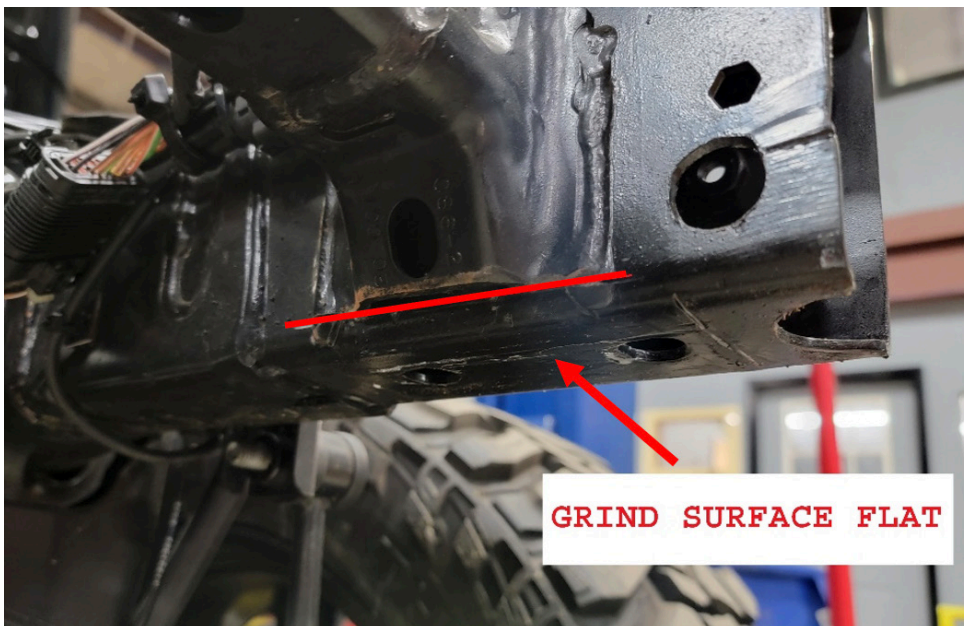

Figure 4
5. Cut the lower gusset edge off the frame cross section on both the driver and passenger side. Grind mounting surface flat. Figure 4.